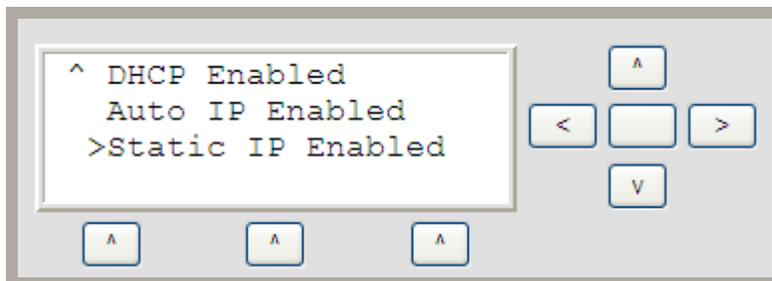

Figure 21 - IP Information Menu
11. Open the properties page for TCP/IP and set the properties as shown in Figure 21.